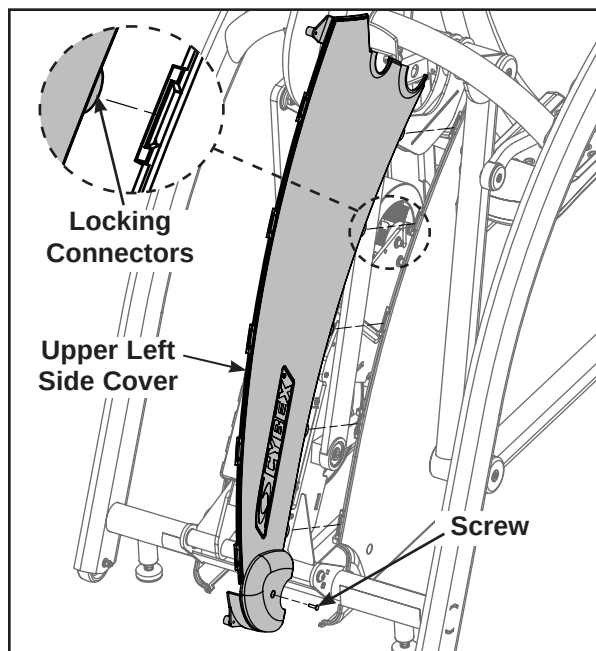

Figure 6
- A. Using a Phillips screwdriver, remove the screw securing each of the upper side covers. See Figure 6.
- A. Place the upper covers in position. See Figure 6.